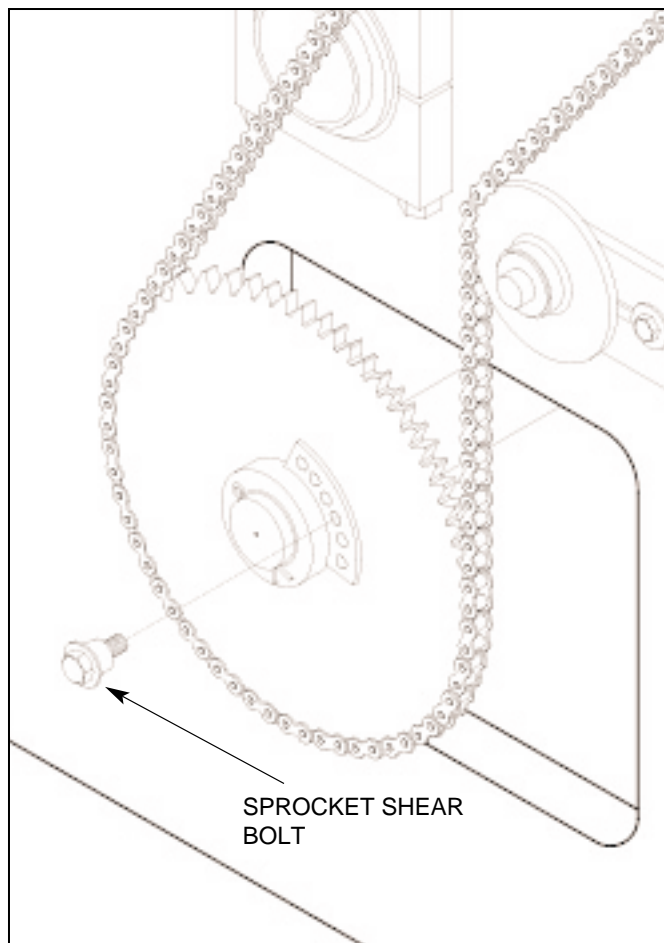

Figure 4.43 REMOVING SHEAR BOLT
4.3.19 Remove the shear bolt from the pallet feeder drive sprocket (see figure 4.43).